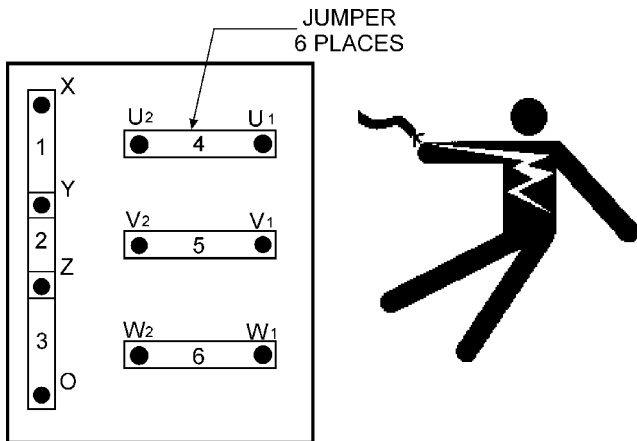

Figure 14. Voltage Change-Over Board
A wide range of voltages are available to supply voltage for many different applications. Voltages are selected by applying jumpers (6) to the **voltage change-over board** (Figure 14). To obtain some of the voltages as listed in Table 7 (see below) will require a fine adjustment using the **voltage regulator (VR) control knob** located on the control panel.
The **voltage change-over board** (Figure 14) is located on the control box, behind the generator control panel. This board has been provided for ease of voltage selection.